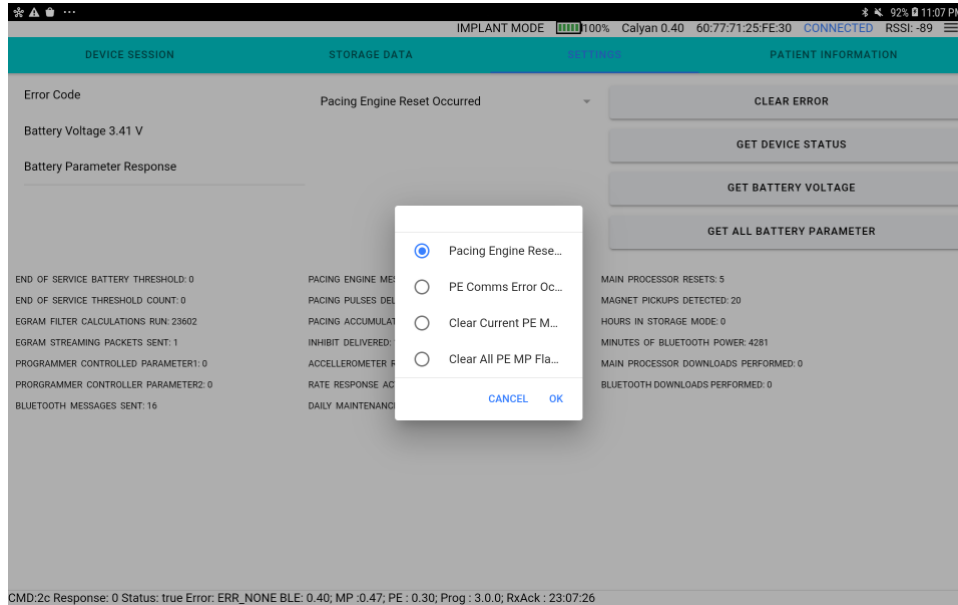

Figure 178: Error Code Dropdown
2. The drop down is scrollable (Figure 178).